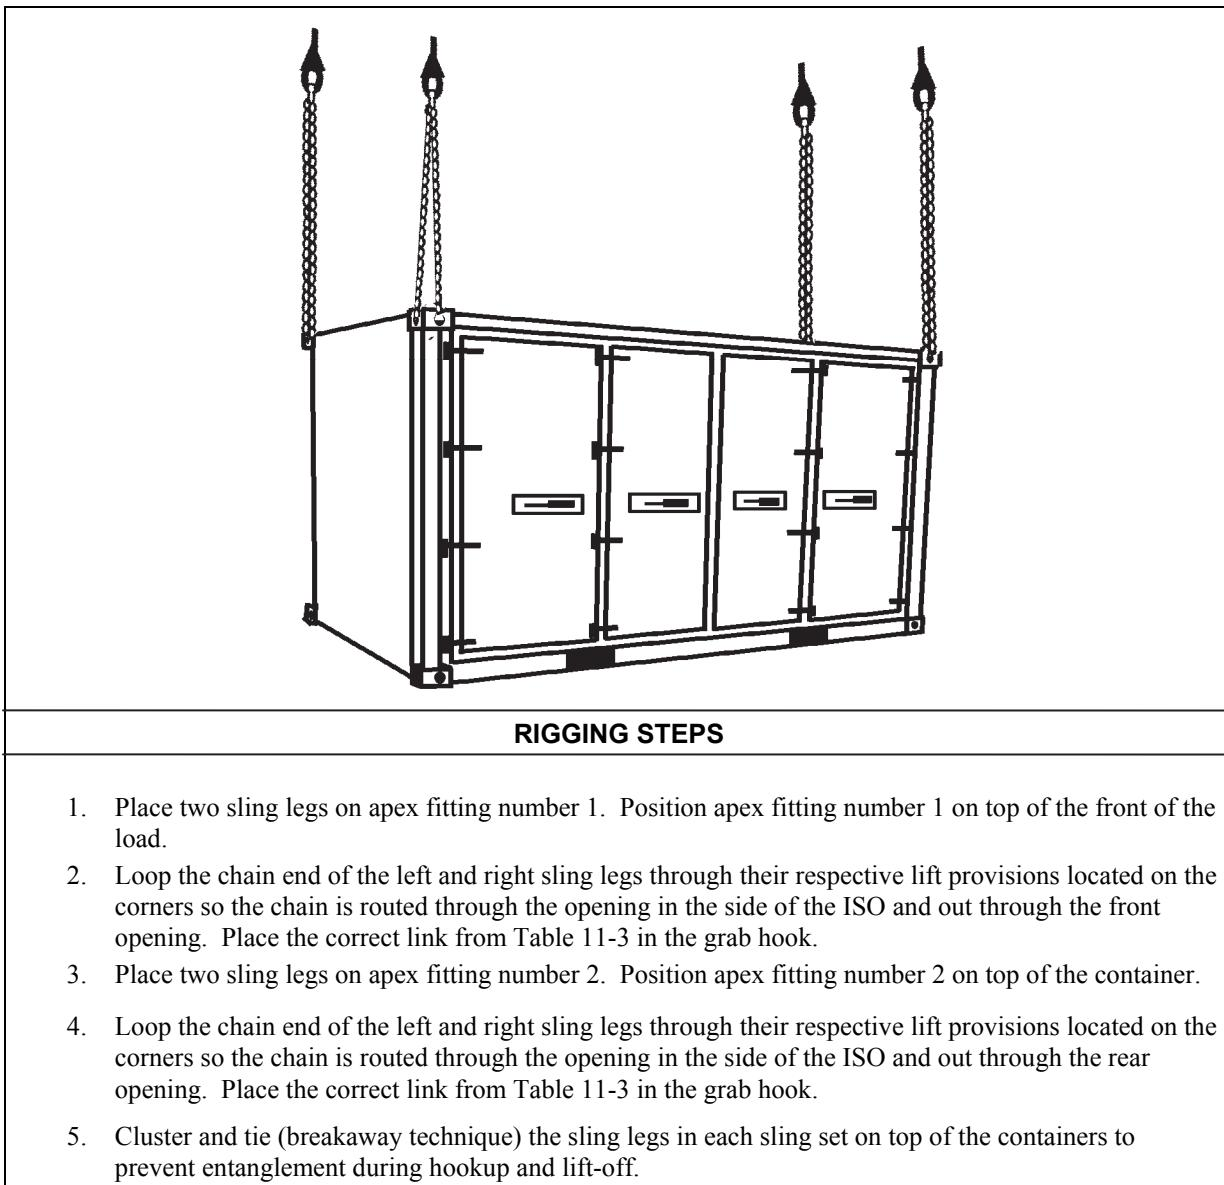

Figure 11-3. Authorized Stockage List Mobility Systems, 12-Foot Section
- **Rigging.** Rig the load according to the steps in Figure 11-3.